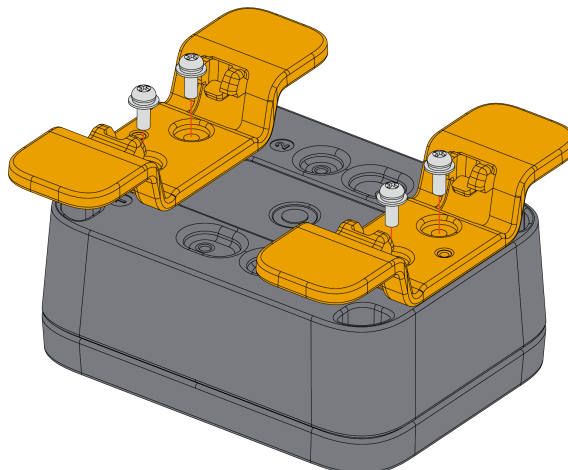
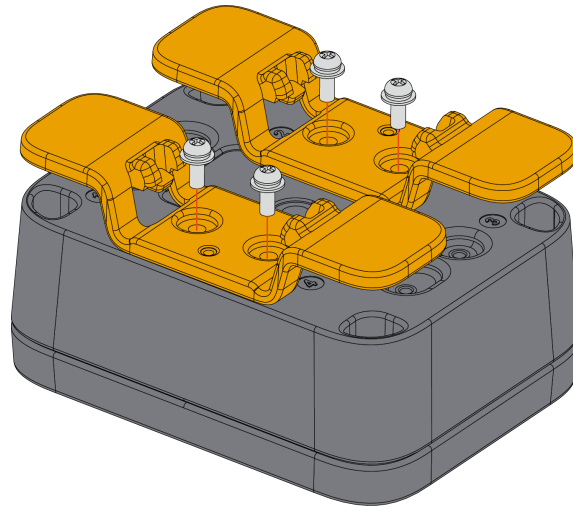

Figure 23: Fixing the DIN mount on the enclosure's position number 1 & 3
Figure 24: Fixing the DIN mount on the enclosure's position number 2 & 4
2. Fix the DIN mount marked with the letter **F** on the WisBlock Unify Enclosure using four (4) pieces of M3*8 mm Head screw with the washer. Place it on fixed positions number **1 & 3** or **2 & 4** of the enclosure as shown in **Figure 23** and **Figure 24**.